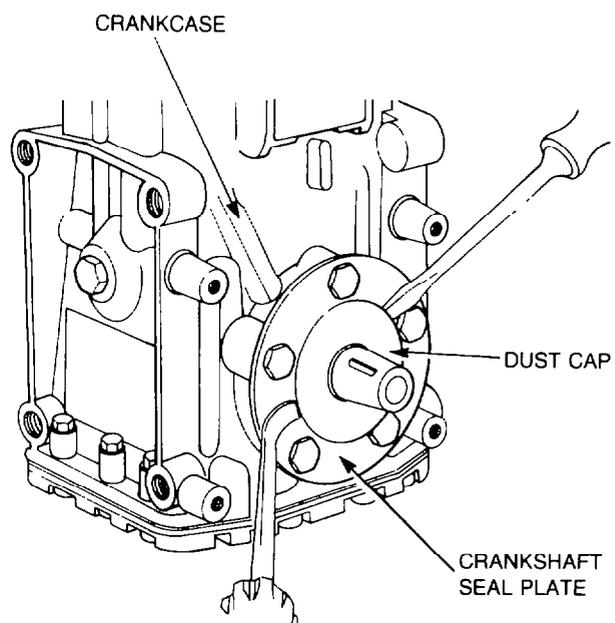

Figure 333 — Dust Cap — Removal
- c. Using two screwdrivers, pry the dust cap off the crankshaft (see Fig. 333), then remove the five bolts securing the crankshaft seal plate to the crankcase and remove the seal plate. Discard the O-ring from the seal plate.